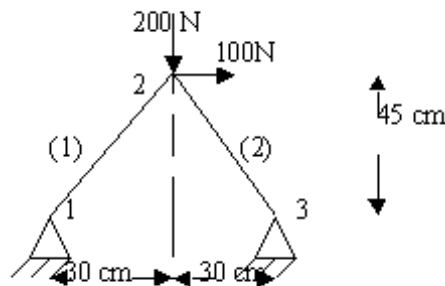

Figure 5
2. Consider the two bar truss structure shown in the figure5. The elements properties are $E_1 = 20 \times 10^{11} \text{ N/m}^2$; $E_2 = 10 \times 10^{11} \text{ N/m}^2$; $A_1 = 100 \text{ mm}^2$; $A_2 = 200 \text{ mm}^2$. Calculate the displacement at node 2 and stresses in the elements 1 and 2. [16]